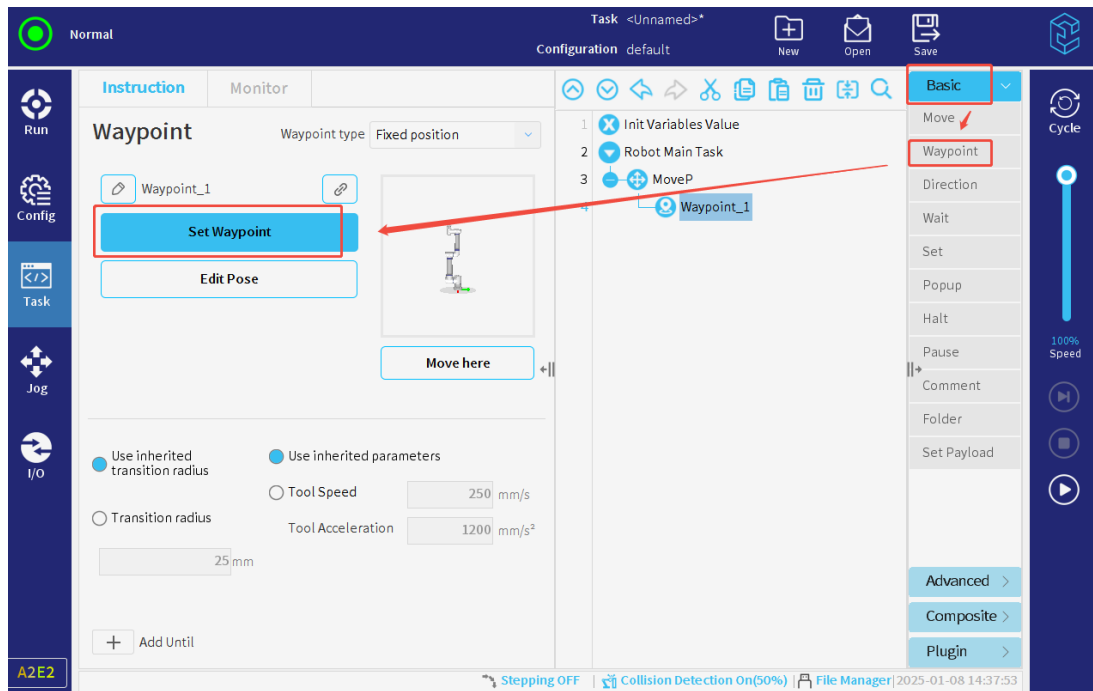

Figure 3-86 : Waypoint
The waypoints are the core element of the robot task, since they are used to record the target points on the path for the robot to reach. The Waypoint can be insert as shown in **Figure 3-86**.
5. After setting, the waypoint node is displayed in blue, as shown in **Figure 3-86** .